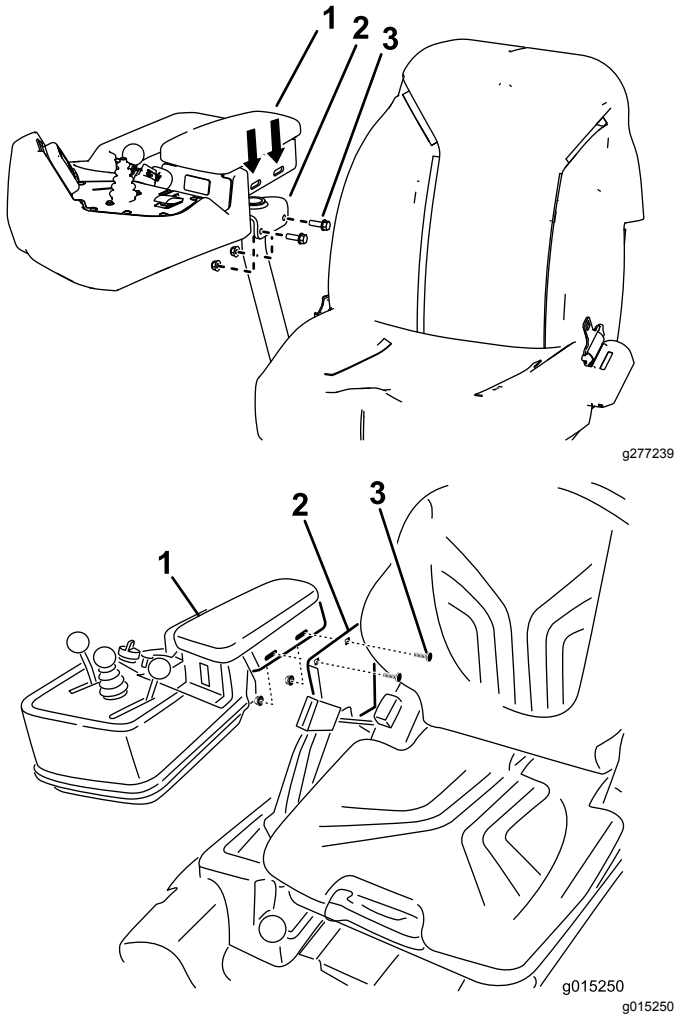

Figure 8
6. Install the armrest to the seat using the 2 flange bolts and flange nuts that you removed previously (Figure 8).
Note: If you need additional adjustment to the armrest, loosen the hardware securing the armrest and move adjust its position (Figure 8).